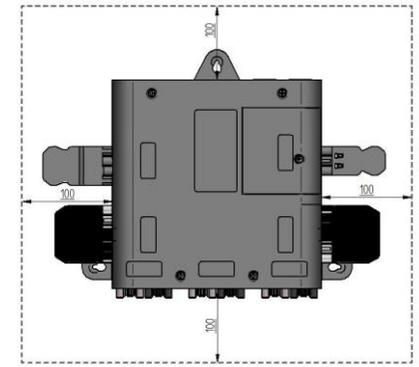

Figure 1.1
- 1) The unit is to be sited appropriate for power supply and cable routing. Ensure the area for installation is clear and the HUB has a minimum of 100mm of surrounding free space. Before mounting ensure adequate access to the cable entry points and service cover. (Figure 1.1)